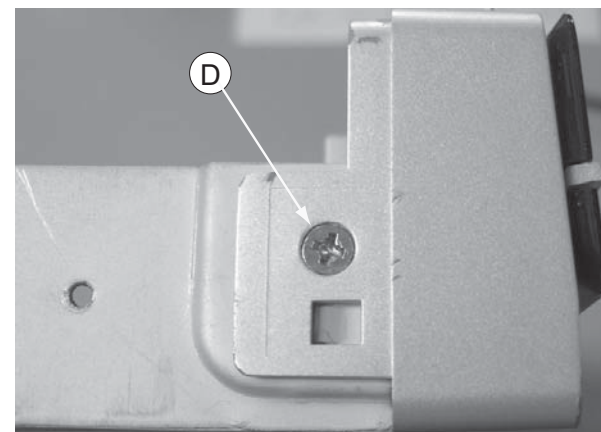

Figure 4
- 1 screw "D" each on the left & right side as show in figure 4